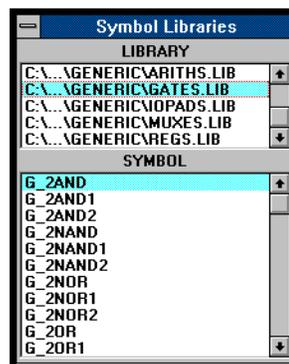

Figure 1-6. Symbol Libraries Window
10. In the Symbol Libraries dialog box, select C:\...\generic\gates.lib from the library list, then highlight the G_2AND symbol (Figure 1-6).